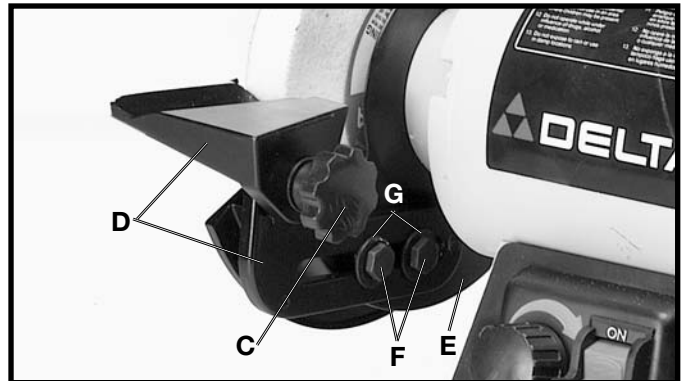

Fig. 4
2. Assemble left tool rest assembly (D) Fig. 4, to the inside of left wheel guard (E), and fasten with two 5/16-18x5/8" screws (F) and 5/16" flat washers (G) as shown.
4. Each tool rest assembly (D) Fig. 4, is adjustable so it can be positioned slightly below the centerline of the wheel and as close to the grinding wheel as possible, giving maximum support to the piece that is being ground. Always maintain a distance of 1/8" or less between the grinding wheel and the inside edge of the tool rest. As the wheels wear down, the tool rest should be adjusted accordingly. When the tool rest is positioned correctly, tighten hardware (C) and (F). Freehand grinding without the use of a tool rest should always be done on the lower quarter of the wheel.